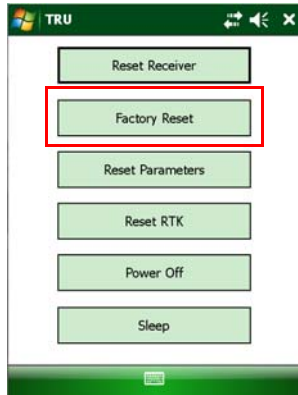

Figure 4-12. TRU – Clearing the NVRAM
5. In the TRU main window, press the **Tools** icon. The **Tools** window appears (Figure 4-12), enabling you to reset the receiver and clear the NVRAM.